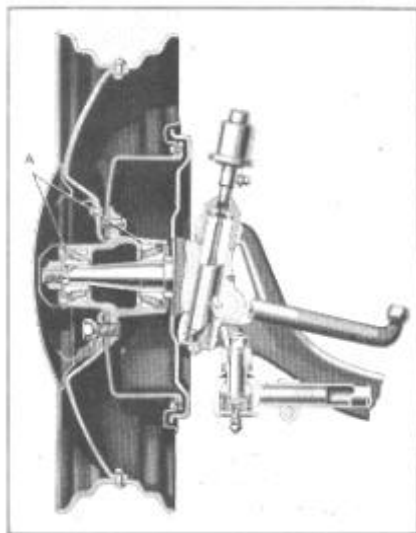

Figure 17
Front wheel bearings (A), Figure 17, should be cleaned and repacked with three ounces of milled sodium soap base lubricant every 5,000 miles. See page 60 for adjusting procedure.